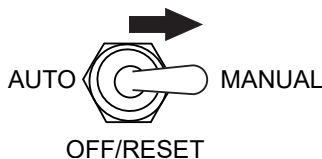

Figure 86. Auto Start/Stop Switch (Manual Position)
2. While keeping the **Hour Check button** pressed, place the **Auto Start/Stop switch** (Figure 86) in the **MANUAL** position.